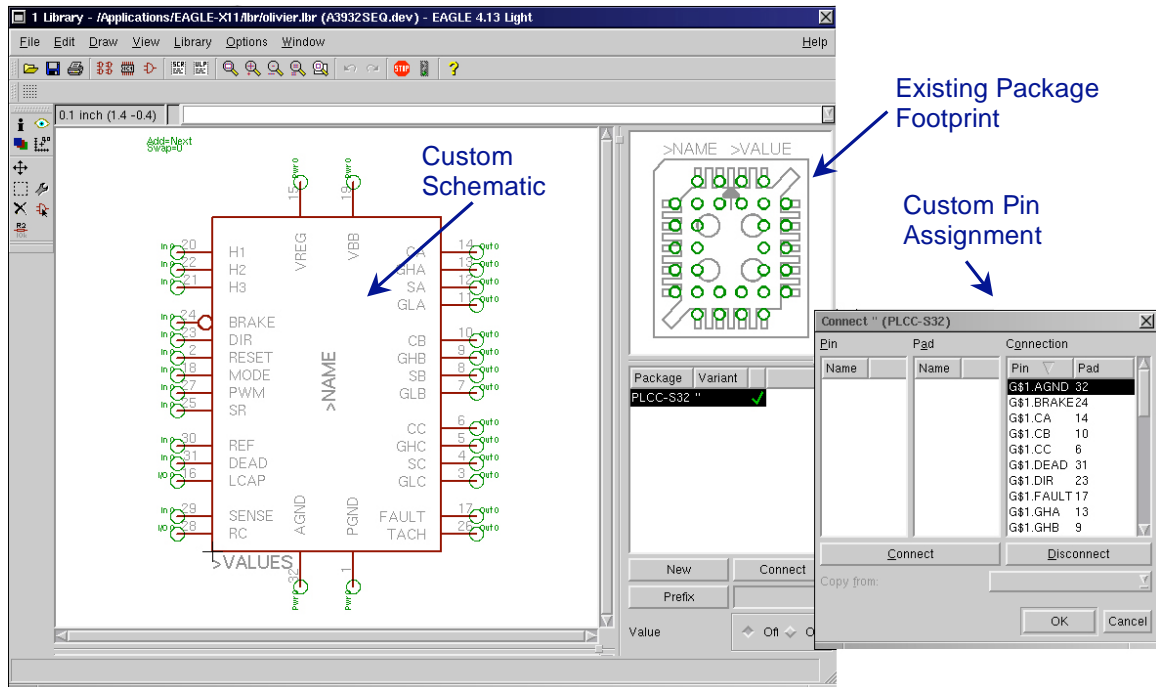

Figure 5: Creating a custom device in *Eagle* using an existing PLCC-S32 footprint.
*Eagle* contains a vast collection of parts in the default libraries however it is likely that certain parts may not exist. If this is the case, a custom device must be created. The most time consuming part of creating a custom device is defining the package footprint. In the *vast* majority of cases, an existing footprint can be re-used from a device in the *Eagle* library. Before wasting effort creating a custom footprint, ensure that it does not already exist in the *Eagle* library. An example of a custom device is shown in Figure 5. The following high-level instructions explain how to define a custom device in *Eagle*:
6. A custom device can be created by linking the new symbol to the package definition, as shown in Figure 5. Create a new device by clicking the *device* button in the Library window.